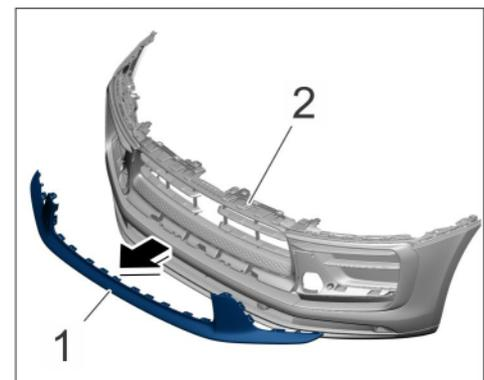

Figure 5
2.2 Remove nose panel (⇒ *Figure 5*). ⇒ *Workshop Manual '631619 Removing and installing nose panel'*